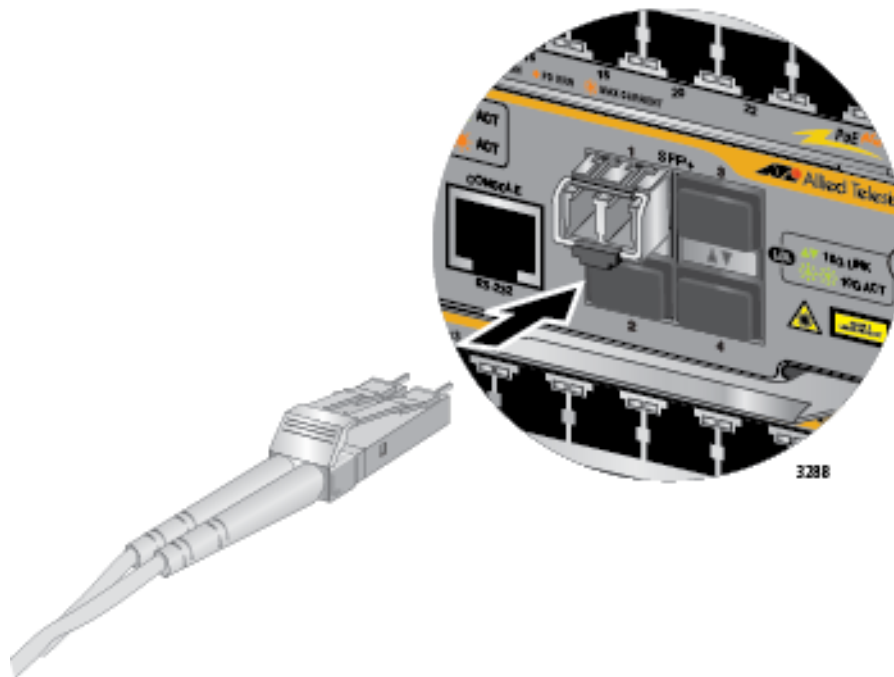

Figure 111. Attaching a Fiber Optic Cable to an SFP+ Transceiver in the AT-SBx81CFC960 Controller Fabric Card
6. Connect the fiber optic cable to the port on the transceiver, as shown in Figure 111 on page 184. The connector should snap into the port.